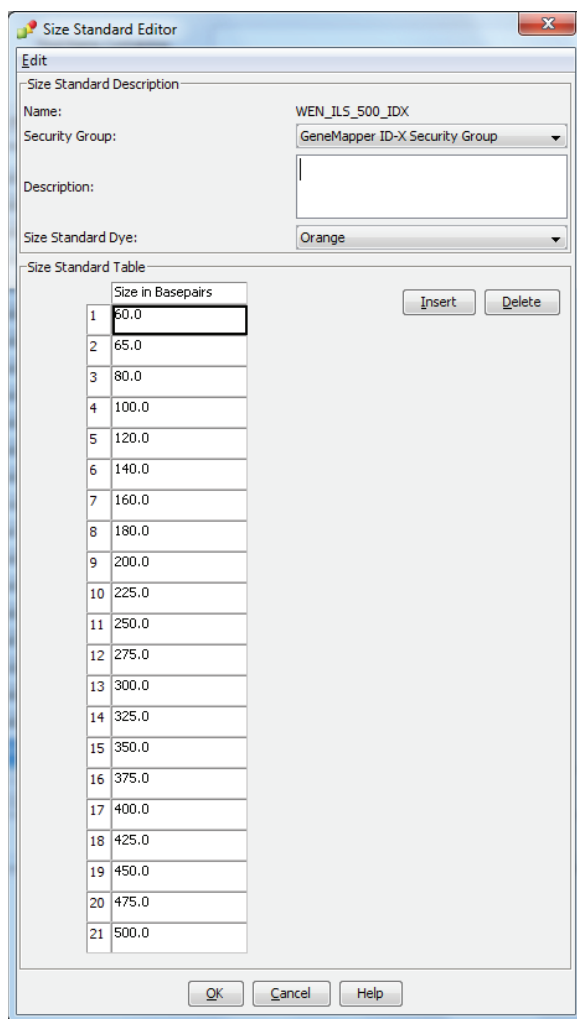

Figure 25. The GeneMapper® ID-X Size Standard Editor.
4. In the 'Size Standard Editor' window (Figure 25), select **GeneMapper ID-X Security Group** as the Security Group. This allows access for all users of the software. Other security groups may be used.